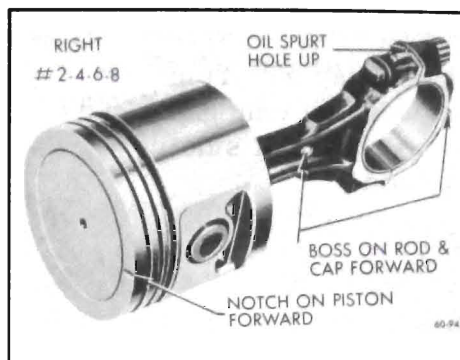

Figure 60-236--Right Bank Piston and Rod Assembly (400 and 430 cu.in. Engines)
3. If the piston and rod assembly is to be installed in the *right* bank, the assembly must be made as shown in Figure 60-236.